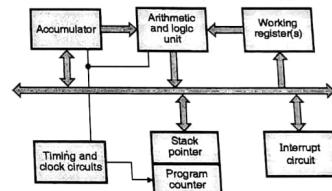

Fig. 1.2.3 : General architecture of a microprocessor
- There are various processors like general purpose processor (GPP or MP), microcontrollers (MC), digital signal processors (DSP), application specific processors (ASP), etc.
- It consists of an ALU, accumulator, working registers, program counter, stack pointer, clock and interrupt circuits. Fig. 1.2.3 shows general architecture of a microprocessor.